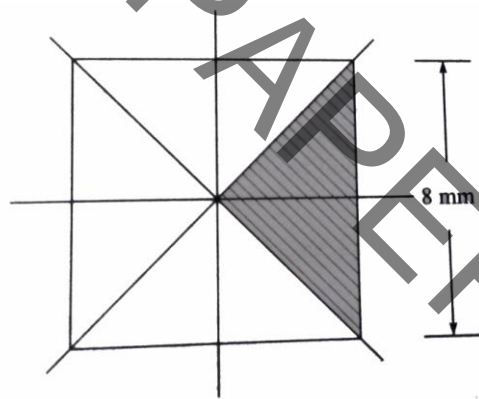

Figure 4
7. A square cross section of a steel shaft is as shown in Figure 4. Evaluate nodal values, if shaft is 8 mm square. Given $G = 8 \times 10^6 \text{ N/cm}^2$, and $\phi = 0.005 \text{ degree/cm}$. Use only one fourth of the cross section. [15]